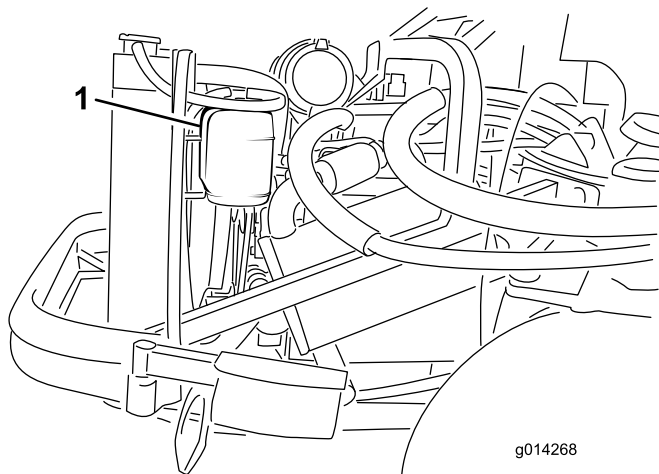

Figure 60
1. Check the level of the coolant in the expansion tank (Figure 60). The coolant level should be between the marks on the side of the tank.